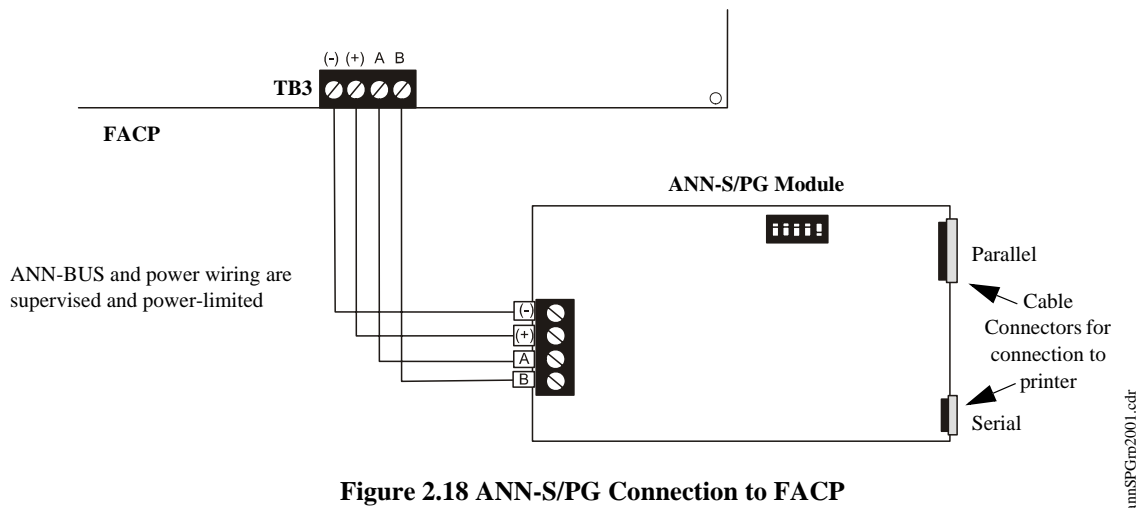

Figure 2.18 ANN-S/PG Connection to FACP
2. Connect the ANN-S/PG to the FACP as illustrated in Figure 2.18
5. Connect a printer to the ANN-S/PG Parallel or Serial connector (refer to Figure 2.18 on page 37)